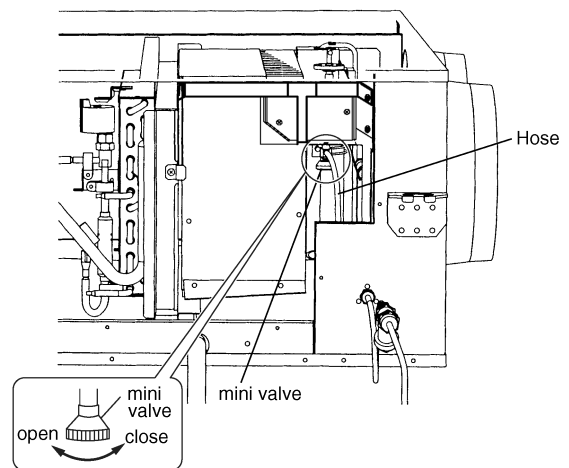

Fig. 4
3. Please loosen a mini valve and drain the water which has accumulated. (Fig.4)
9. Push in the Humidifier elements. (Fig.4)
10. Install the hold plate. (Fig.4)
11. Install the cover of the feed water tank. (Fig.4)